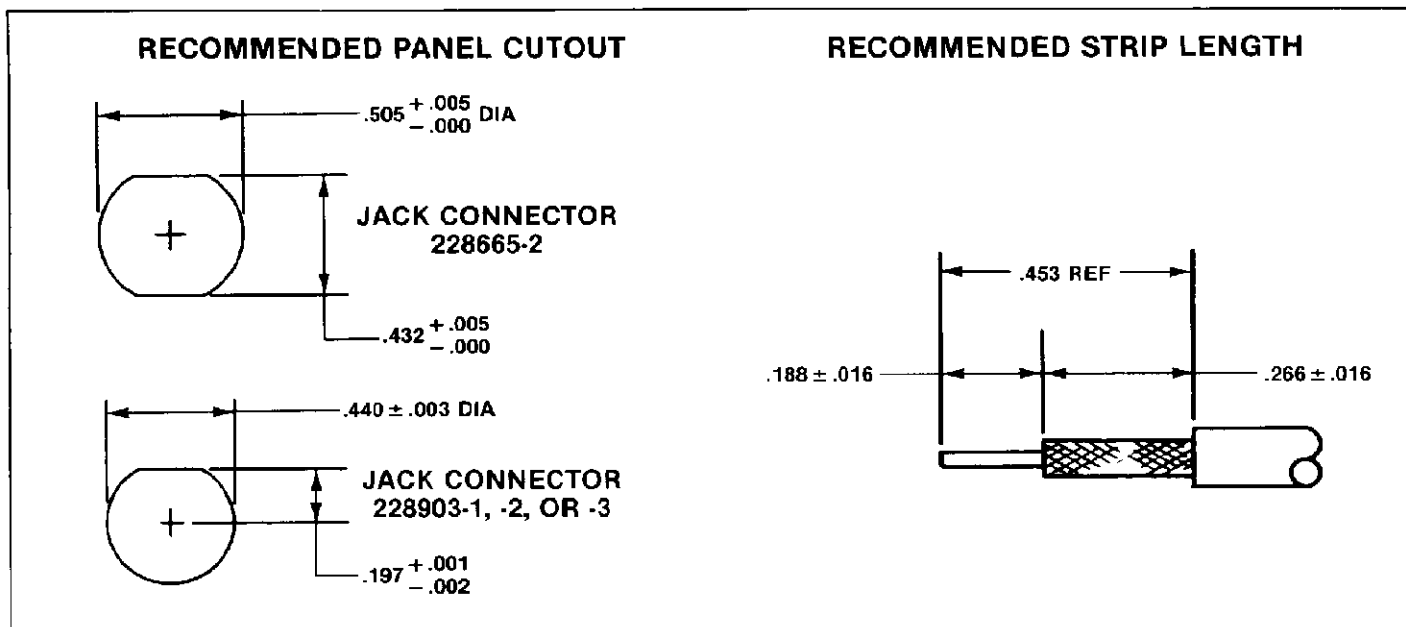

Fig. 2
1. Slide ferrule onto cable, and strip cable in accordance with the dimensions shown in Figure 2.
7. Using the dimensions shown in Figure 2, make the panel cutout; then insert the bulkhead jack connector into the panel, and secure the connector with the lockwasher and jam nut.